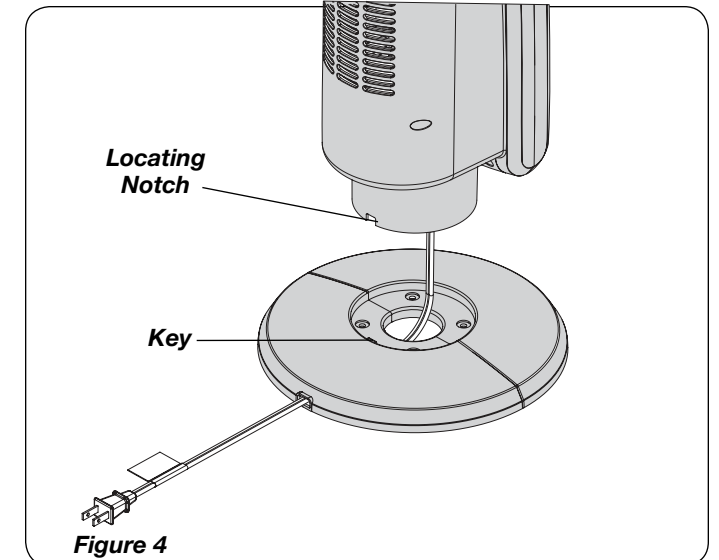
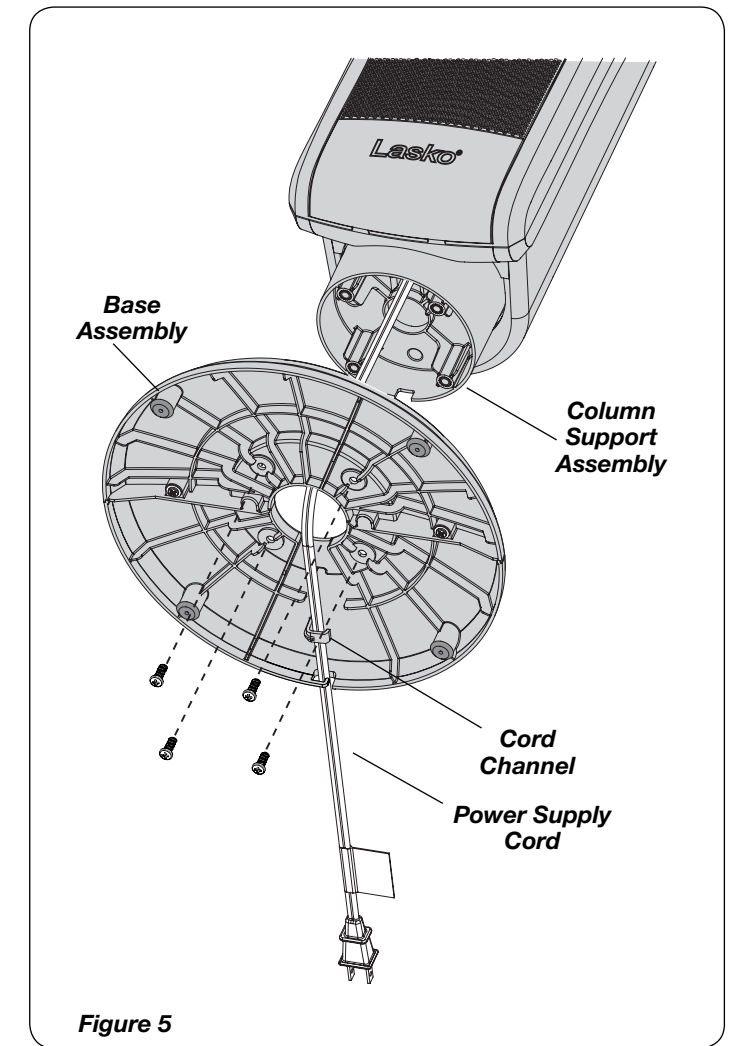

Figure 4
Figure 5
- Align the **Base Assembly** with the **Column Support Assembly**. Make certain to align the **Locating Notch** on the **Column Support Assembly** with the **Key** on the **Base Assembly** (Figure 4). Attach the **Base Assembly** to the **Column Support Assembly** with (4) M5 X 13 mm Screws. Gently pull any excess slack of the **Power Supply Cord** and place it in the **Cord Channel** of the **Base Assembly**. (Figure 5)